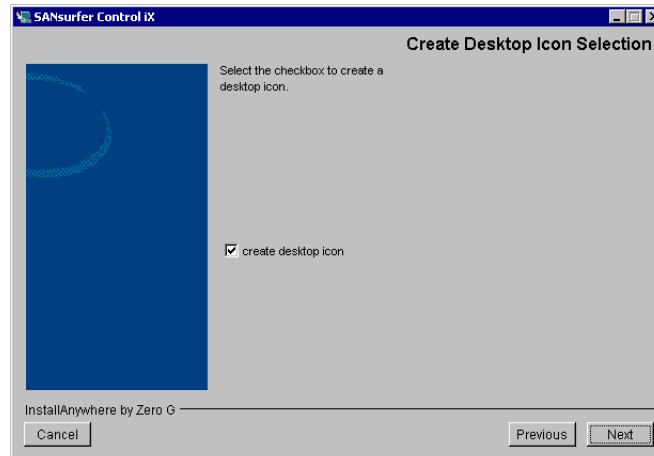

Figure 6-4. Create Desktop Icon Selection Dialog Box (Windows 2000/Server 2003)
6. If you are installing the SANSurfer Control iX GUI on a Windows 2000 system, the **Create Desktop Icon Selection** dialog box displays (see figure 6-4).